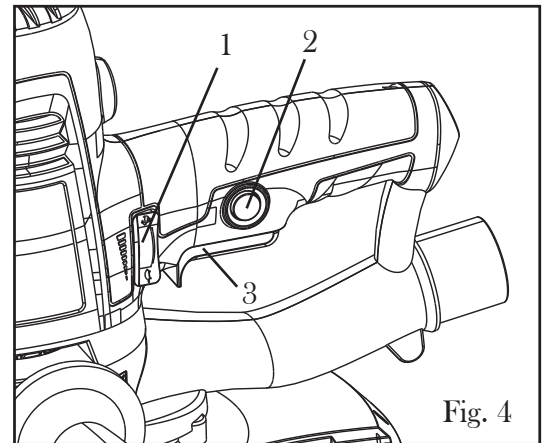

Fig. 4
Use the variable speed dial (Fig. 4 - 1) to adjust the base pad's rotating speed between 1500 and 2300 RPM, depending on your task at hand. Use lower speeds for coarse sanding, or cleaning plastic and water stains from the work surface. Use higher speeds for fine sanding to achieve a smooth finish.
3. Press down the trigger lock button (Fig. 4 - 2), and then press the trigger (Fig. 4 - 3) to switch ON the tool. You can press down the trigger lock button again to lock the trigger ON for continuous use.